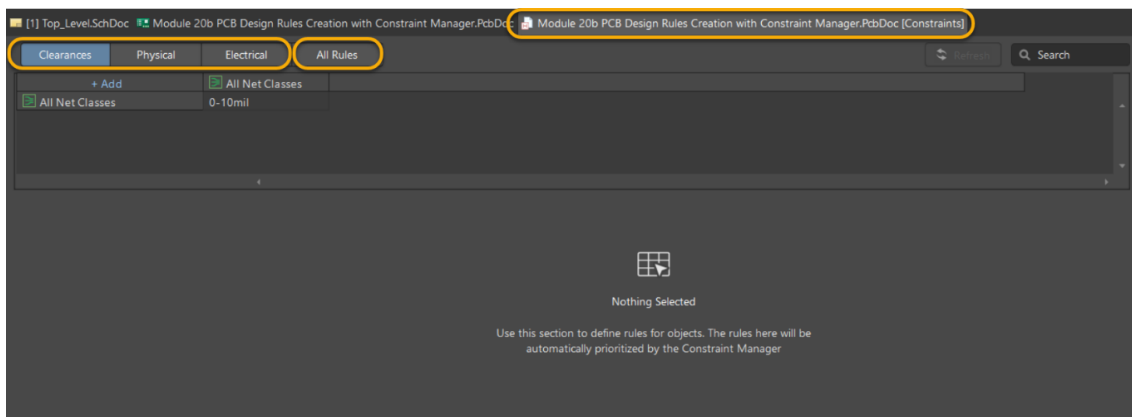

Figure 1. Constraint Manager
12. At the top of the document, there are four different constraint types; Clearance, Physical, Electrical and the All Rule area. This can be seen in Figure 1.